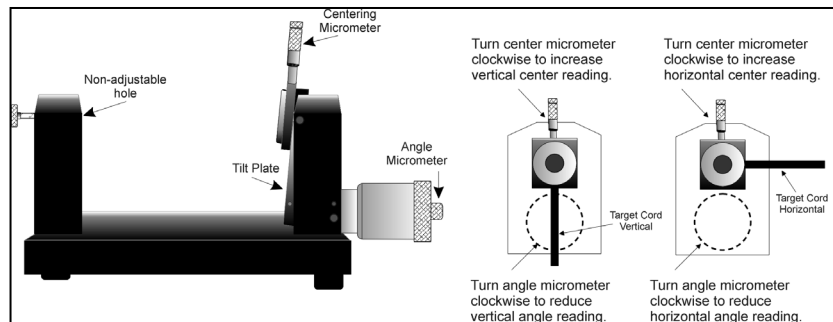
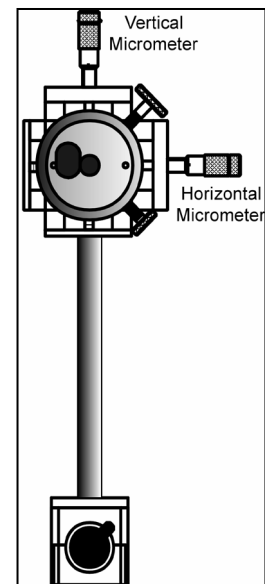

Figure 17 – Model A-807 Calibration Mounting Fixture
Figure 18 – T-230 Target Stand
Note: Figure 17 shows the target mounted in the Hamar Laser A-807 fixture stand. In order to take advantage of the automated calibration features available with the Read8 software, this fixture stand must be used for calibrating center and slope targets. Mount the laser in the non-adjustable hole on the fixture. Mount the target in the tilt plate with both the target and laser in the normal position (cord down).
An appropriate target stand with micrometer stage, such as the Hamar Laser T-230, or any calibrated x-y slide may be used when calibrating center-only targets (see Figure 18).
Note: The preferred procedure is to calibrate the vertical axes, both center and slope if appropriate, then rotate the target in the fixture 90 degrees and calibrate the horizontal axes (see Figure 17). If working with a fixture that has a horizontal micrometer, there is no need to rotate the target (see Figure 18).
***Note:** If using the Model A-807 Calibration Mounting Fixture, (see Figure 17) the target must be rotated 90° before performing a horizontal calibration. If the calibration fixture you are using has two centering micrometers, such as the T-230, the horizontal centering micrometer may be used and there is no need to rotate the target.*
In order to use the automated features of the Read8 software, calibration for a center-and-slope target must be performed with the target mounted in the A-807 calibration mounting fixture (see Figure 17). This fixture is equipped with both a centering micrometer and an angle micrometer.
- Note: If using Model A-807 Calibration Mounting Fixture, (see Figure 17) the target must be rotated 90° before performing a horizontal calibration. If the calibration fixture you are using has two centering micrometers, such as the T-230, the horizontal centering micrometer may be used and there is no need to rotate the target.*